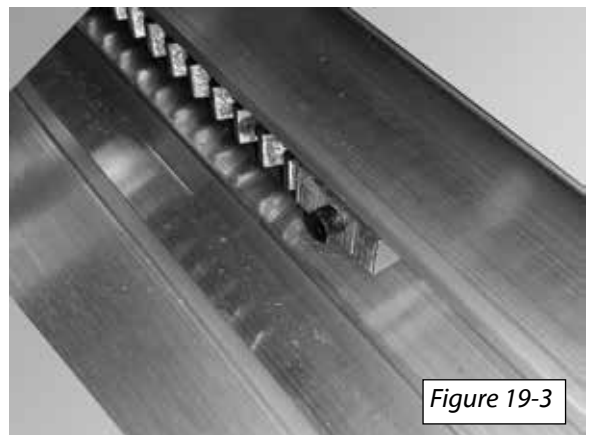

Figure 19-3
9. Move the end stop to the end of the gear rack and tighten in place with a 9/64" hex wrench. [Figure 19-3]